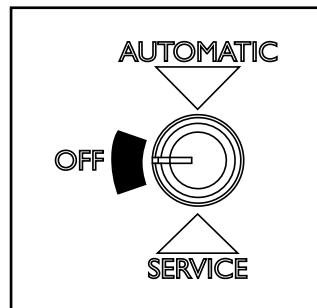

Figure 4.1
1. The wall control is required for proper operation of this appliance in “Automatic” mode. At this time, fill the hopper with pellets, insure the control is set to “OFF”. Figure 4.1. Plug the power cord into a properly grounded, nearby outlet.